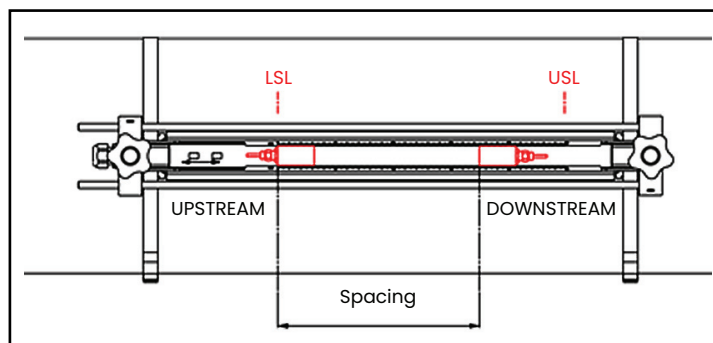

Figure 14: Installation for two traverses with one fixture
5. See Figure 14 below for an example of a completed installation. In this drawing, LSL is the lower specified limit and USL is the upper specified limit for the installation.